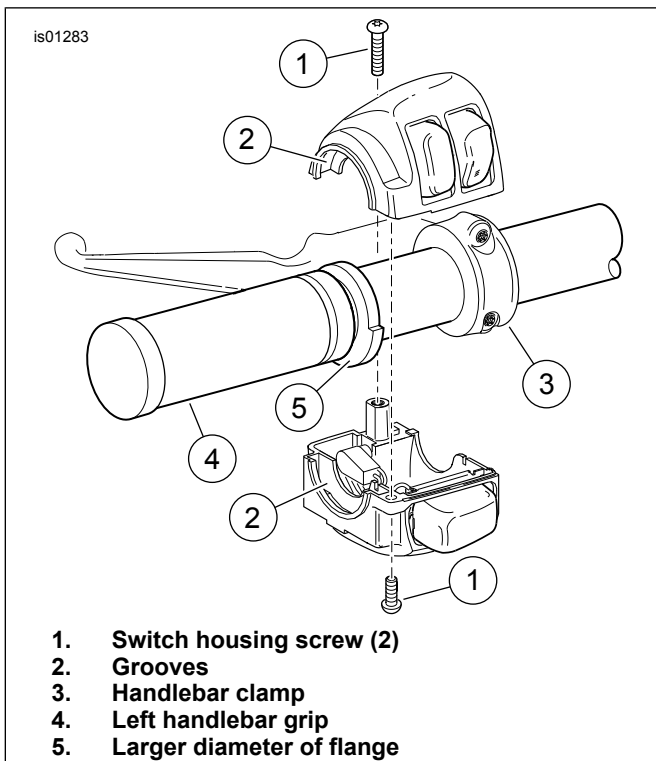

Figure 5. Left Handlebar Switch Housing
3. See Figure 5. Position left side heated grip (4) so larger diameter portion of flange (5) is at the bottom. Push grip fully onto handlebar.
4. See Figure 5, which shows similar left side switch mounting. Position lower switch housing beneath grip so that grooves (2) on outboard side of switch housing fit over flange on end of grip.